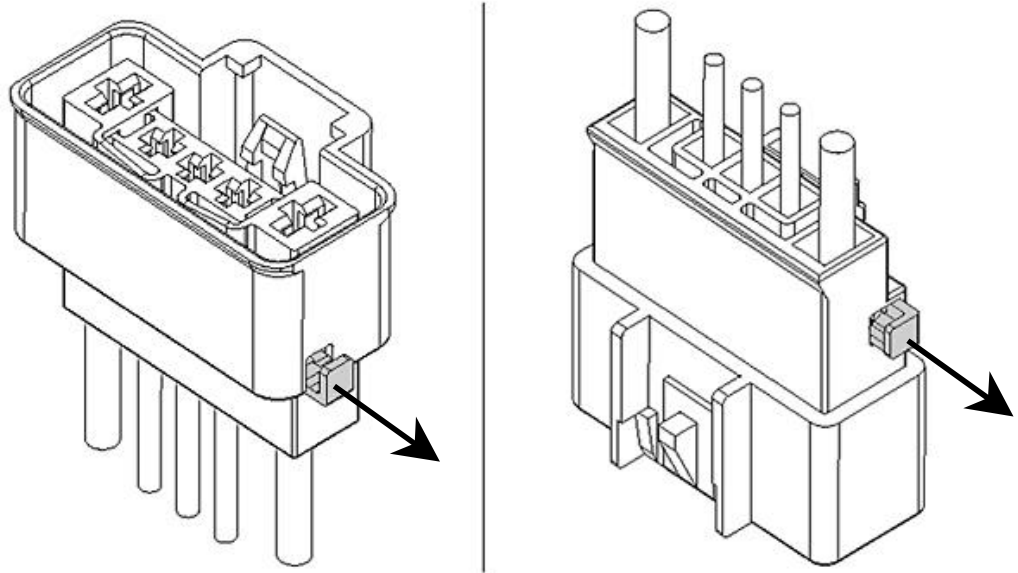

Figure 4
- 5.1 Remove completely the secondary lock in the direction shown by the arrows; see Figure 4 below .